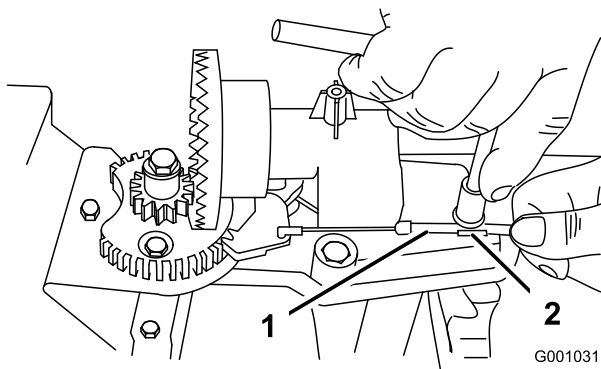
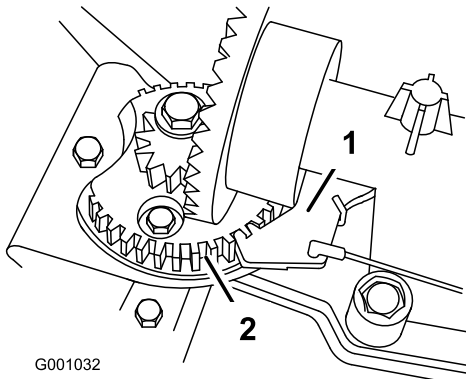

Figure 59
Figure 60
2. Loosen the bolt on the cable clamp (Figure 59).
3. Grasp the cable conduit and move it toward the front of the machine until the discharge chute latch fully engages the gear teeth (Figure 59 and Figure 60).
Note: The latch is spring loaded and will naturally move into the teeth of the gear (Figure 60).